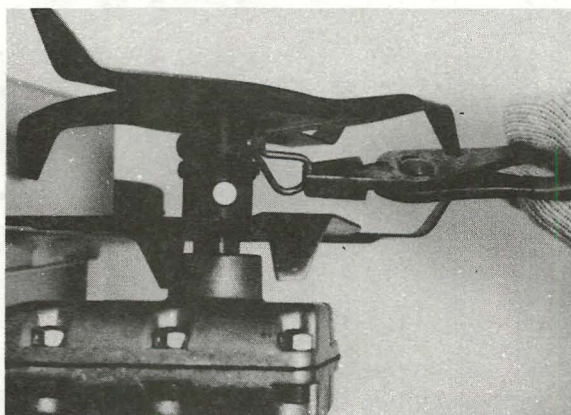

Fig. 25
2. Remove the hitch pin clips and clevis pins (Fig. 25).